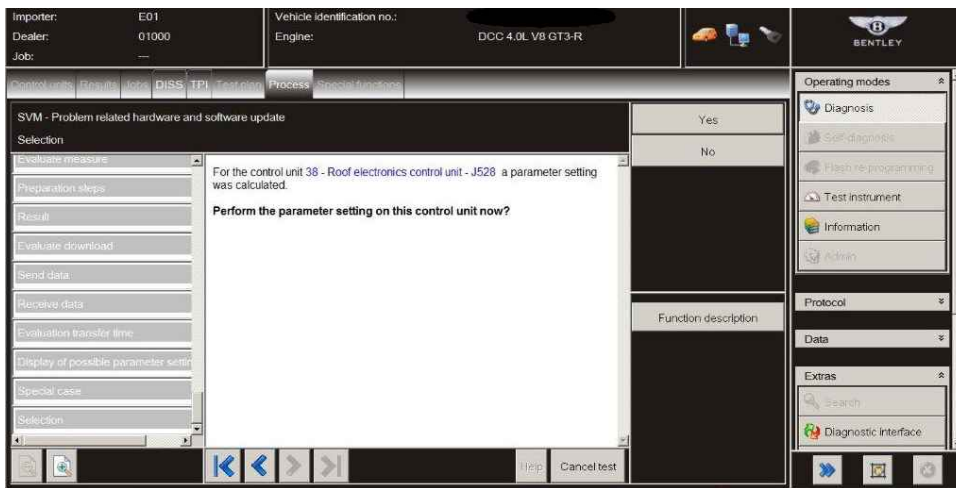

Figure 5
- When requested, enter your GEKO user ID and follow all on screen prompts to update the Roof electronics control unit – J528 as shown in Figure 5